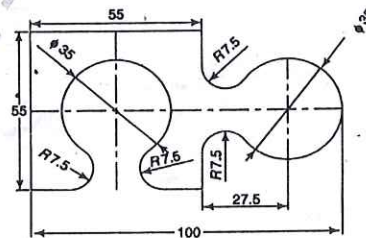

Fig.Q7(b)
- Write the manual part programming for the milling components shown in Fig.Q7(b) consider spindle speed as 800 rpm and feed rate as 100 mm/min and absolute positioning. Assume plate thickness as 10 mm and all dimensions are in mm. (08 Marks)